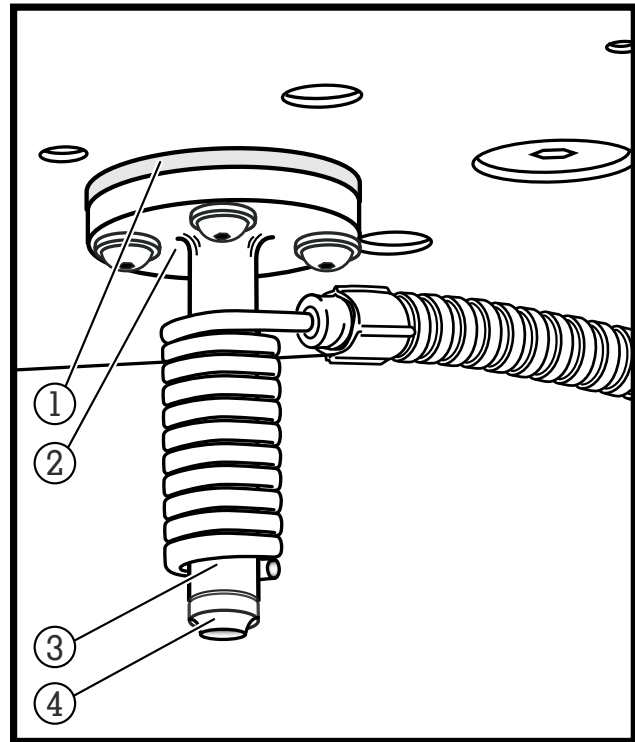

Figure 8-7 Standard Probe and Heater
Dukane can also supply standard probes which are machined to the specified length. These probes are designed for applications where the setup does not change. The platen is drilled to accept the probe at the specified position as shown in Figure 8-7. An insulating disc ① with the same hole pattern as the probe base ② goes between the ③ probe and the upper platen. The mounting base has a small amount of clearance machined into the four mounting slots to permit small lateral adjustments. The standard length (including the insulator) is 4-inches (100mm) and custom lengths are available (Model TT24CL).
Probe tips are normally titanium or stainless steel. They are machined with $1/4-28$ threads to screw into the end of standard or MATP™ probes. Figure 8-7 shows a tip ④ attached to the standard probe ③.